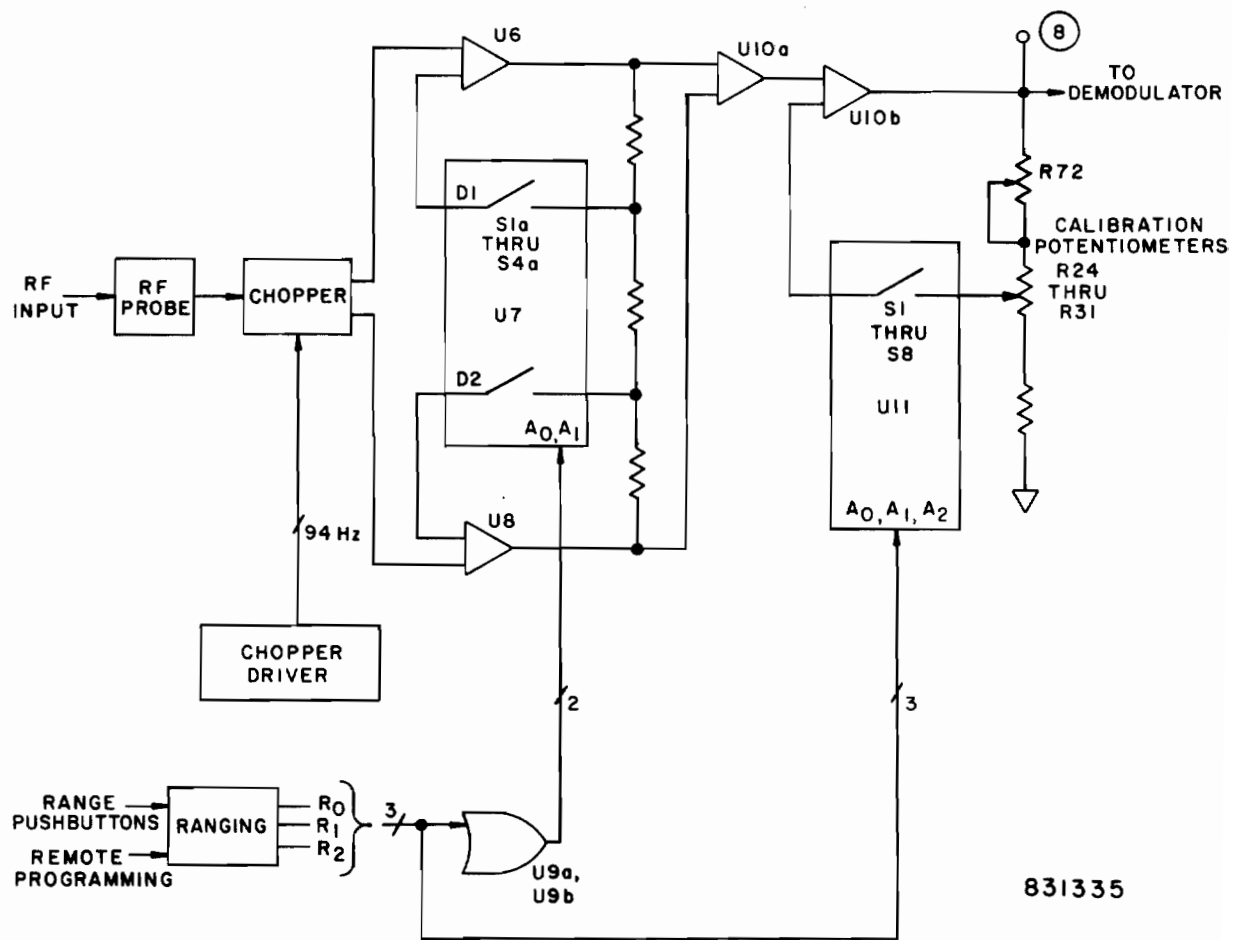

Figure 3-2. Block Diagram: Amplifier Section
C. Amplifier. (See Figure 3-2.) The balanced 94 Hz square wave signal from the chopper is amplified by operational amplifiers A2U6, A2U8, A2U10a and A2U10b. The gain of the operational amplifiers A2U6, A2U8 and A2U10a is controlled by adjusting feedback to the amplifier through multiplexer A2U7 and a resistor network. The signals R0, R1 and R2, from the ranging section, applied through gates A2U9a and A2U9b, control the switching of input terminals D1 and D2 of multiplexer A2U7 to two of eight points in the resistance networks, thereby adjusting the feedback and the amplifier gain.